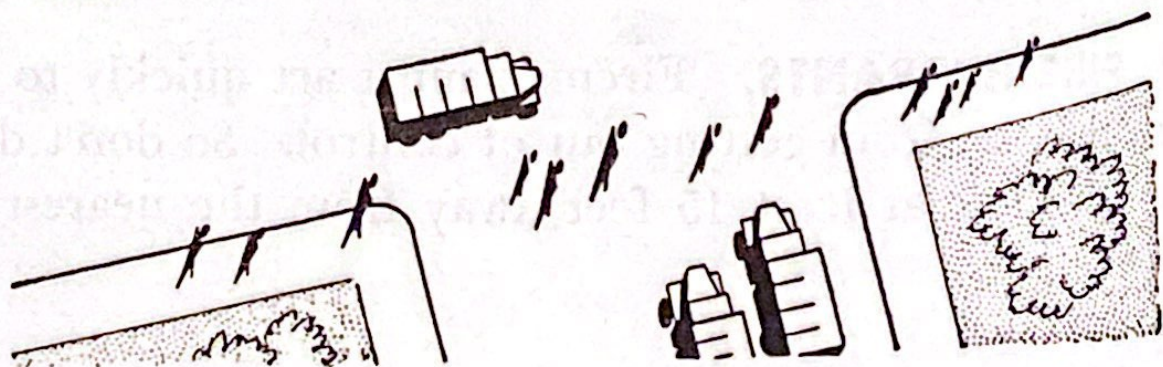

Figure 22. Keep crossings clear.
51. CROSSWALKS. a. Keep clear of crosswalks when you halt at an intersection, so that you do not obstruct pedestrians' right-of-way. (See fig. 22.) Blocking their way is chiseling—and worse, because they may be injured by vehicles they cannot see if they have to dart around your vehicle.